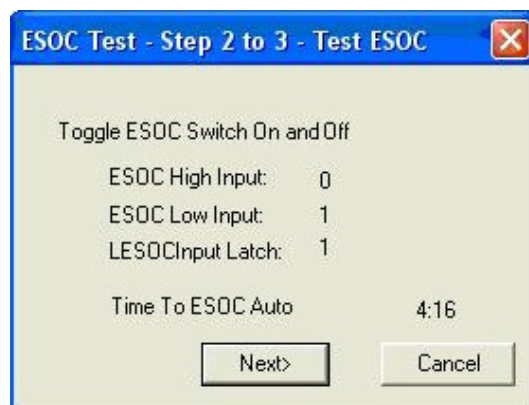

Figure 6 – ESCO Test Dialogue Box
3.7. Request the Signaller to release the ESOC button on his workstation and check the values shown against all three lines in the dialogue box return to their original settings (See Figure 6).